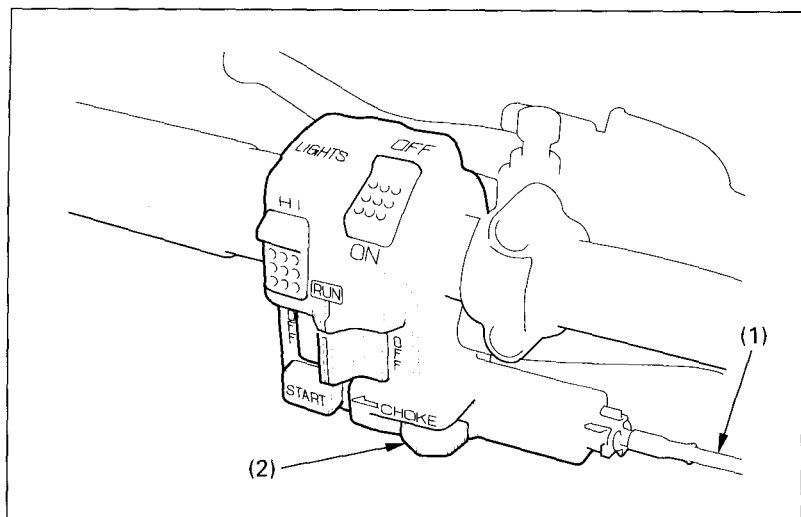

Fig. 4-8 (1) Choke cable
Check the condition of the choke cable (Fig. 4-8) and the operation of the choke lever (2). If the cable is damaged or kinked, have it replaced by your Honda dealer.